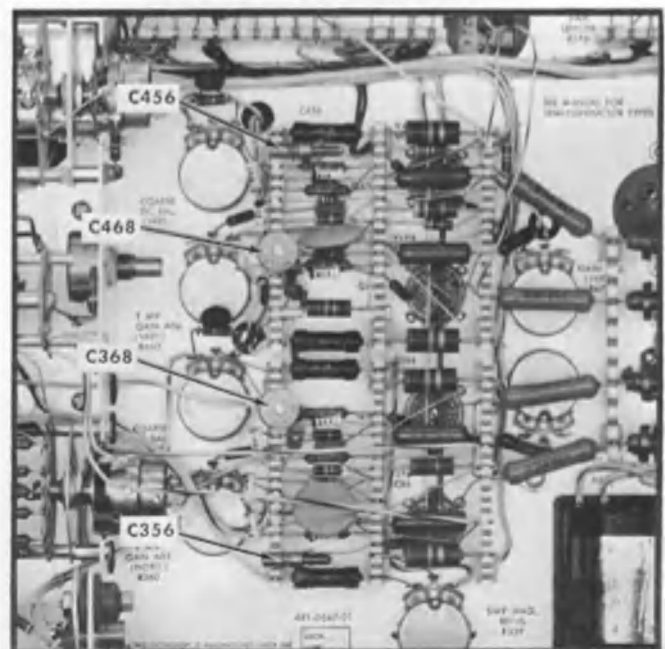

Fig. 6-25. Location of phasing adjustments (instrument right side).
g. Adjust C419 for a trace ≥ 4.2 cm in length. See Figs. 6-25 and 6-26 for interaction of phasing adjustments.